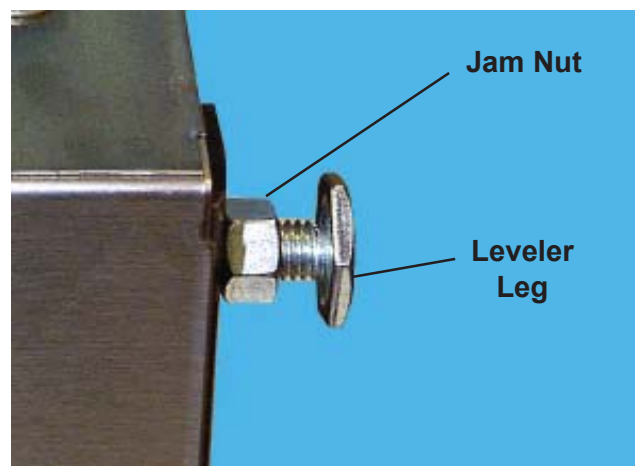

Figure 5. Leveler Leg and Jam Nut
6. With a 9/16-in. wrench, loosen all four jam nuts (Figure 5) and unscrew the four leveler legs out about 1/2-in.
9. With a 7/8-in. wrench, turn the leveler legs (Figure 5) as necessary to level the base, right-to-left.